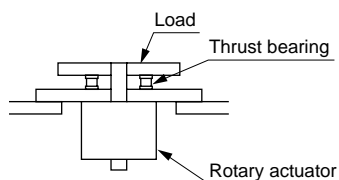

Fig.1
- If axial load (thrust) on the shaft exceeds the tolerable value, operation faults could occur. If such a load is unavoidable, use a structure with thrust bearing as shown in Fig. 1.
(1) First loosen the hexagon nut as shown in Fig. 1.